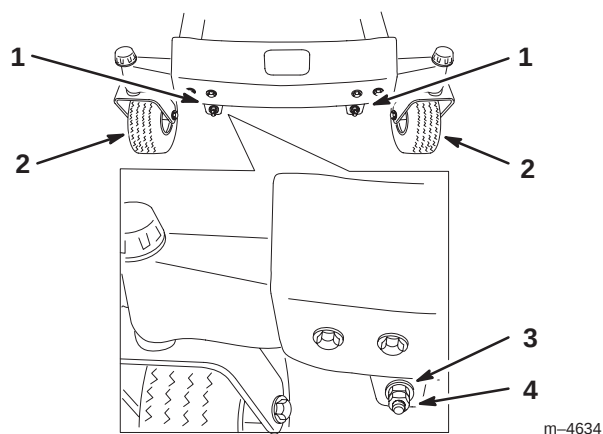
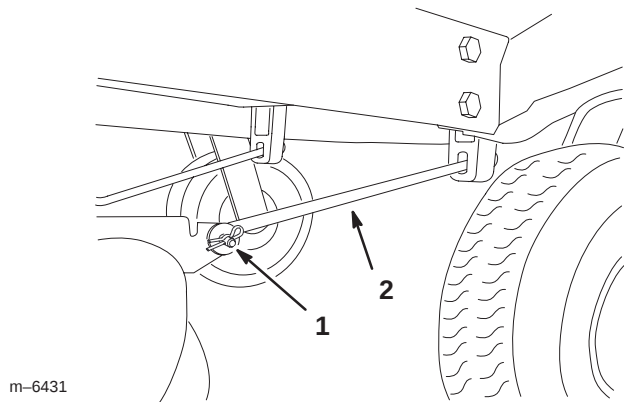

Figure 44
Figure 46
10. To adjust the front-to-rear blade slope, remove the locknuts and then rotate the adjustment nuts in the front of the mower (Fig. 44).
12. After adjusting both adjustment nuts evenly, check the front-to-rear slope again. Continue adjusting the nuts until the front blade tip is 1/16–5/16 inch (1.6–7.9 mm) lower than the rear blade tip (Fig. 44).
Note: After adjusting the adjustment nuts, make sure there is **no slack** in either support rod (Fig. 46). Tighten either one to remove the slack (Fig. 44).
4. Remove the hairpin cotter and clevis pin from the front support rod on each side of the mower.(Fig. 46).
7. Attach the front support rods to the tractor with the clevis pins and hairpin cotters (Fig. 46).